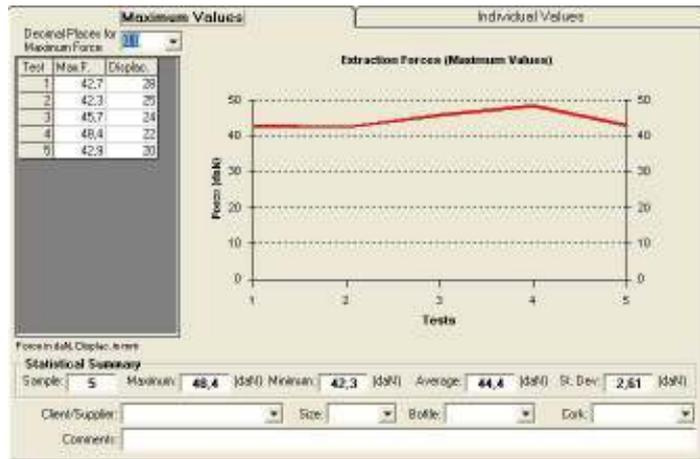

Figure 22 – Report Maximum Values window
- Maximum Values** (figure 22): window where one can see the maximum force values of each test. For each test, the table shows the maximum value and the displacement value at the maximum force.